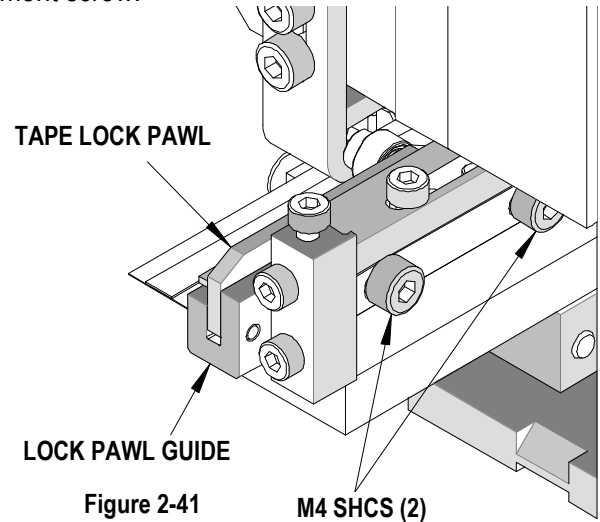

Figure 2-41
2. Using a 3mm hex wrench, loosen the (2) M4 SHCS holding the lock pawl guide. See Figure 2-41.
5. Secure the lock pawl guide in position by tightening the (2) M4 SHCS.